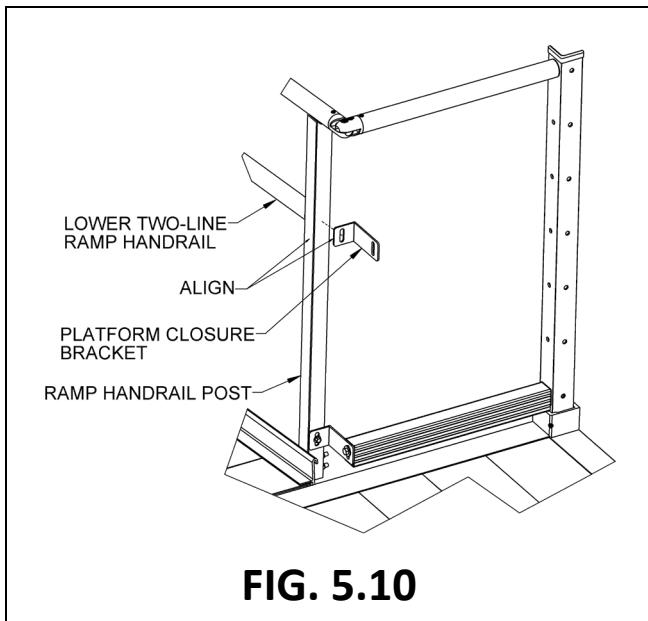

FIG. 5.10
- 5.5.1. Locate a platform closure bracket. Clamp the closure bracket to the ramp handrail post such that the short leg is centered on the lower Two-Line ramp handrail and aligned with the post. Orient the bracket so the long leg is on the same side as and parallel to the platform post (FIG. 5.10).